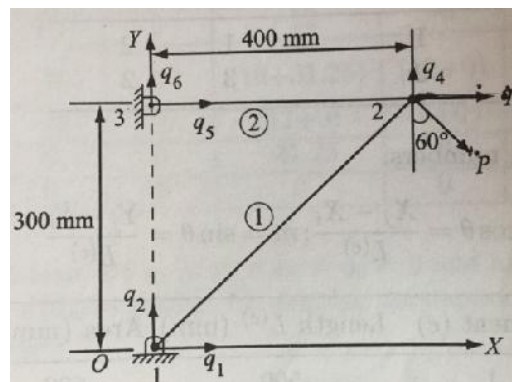

Fig. 1
b) Determine nodal displacements and element stresses of the truss shown in Fig 1. The truss members are subjected to a temperature rise of 50°C .